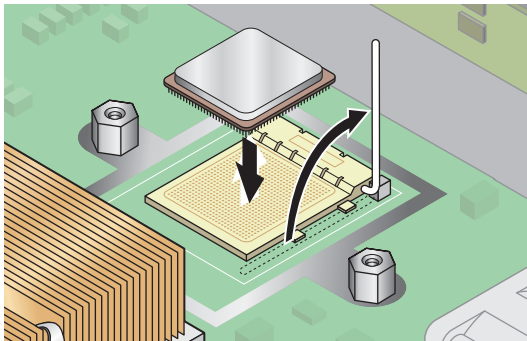

FIGURE 4-31 Installing a CPU in its Socket
2. Ensure that the socket release lever is in the fully open, perpendicular position (see FIGURE 4-31).